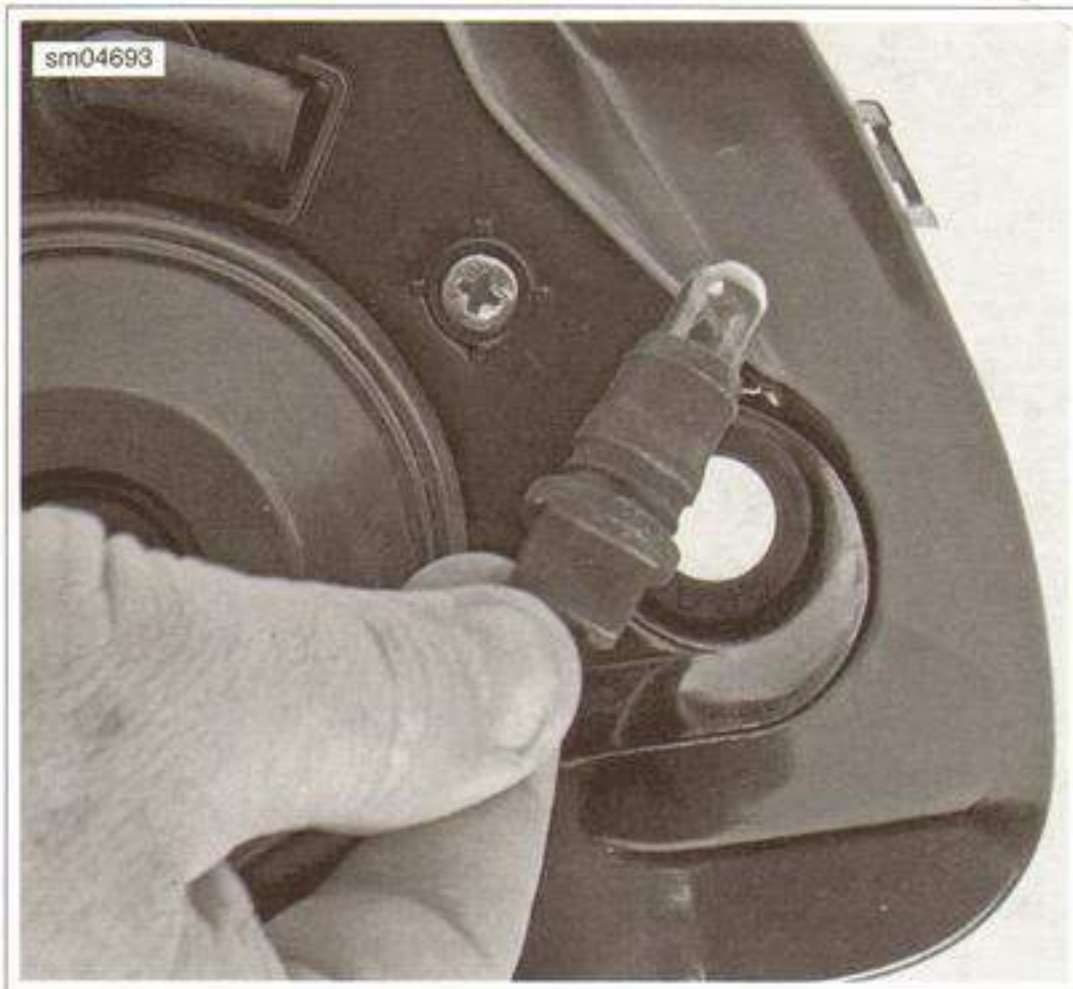

Figure 7-48. Marker Lamp
4. See Figure 7-48. Pull the marker light socket out of the headlamp module.